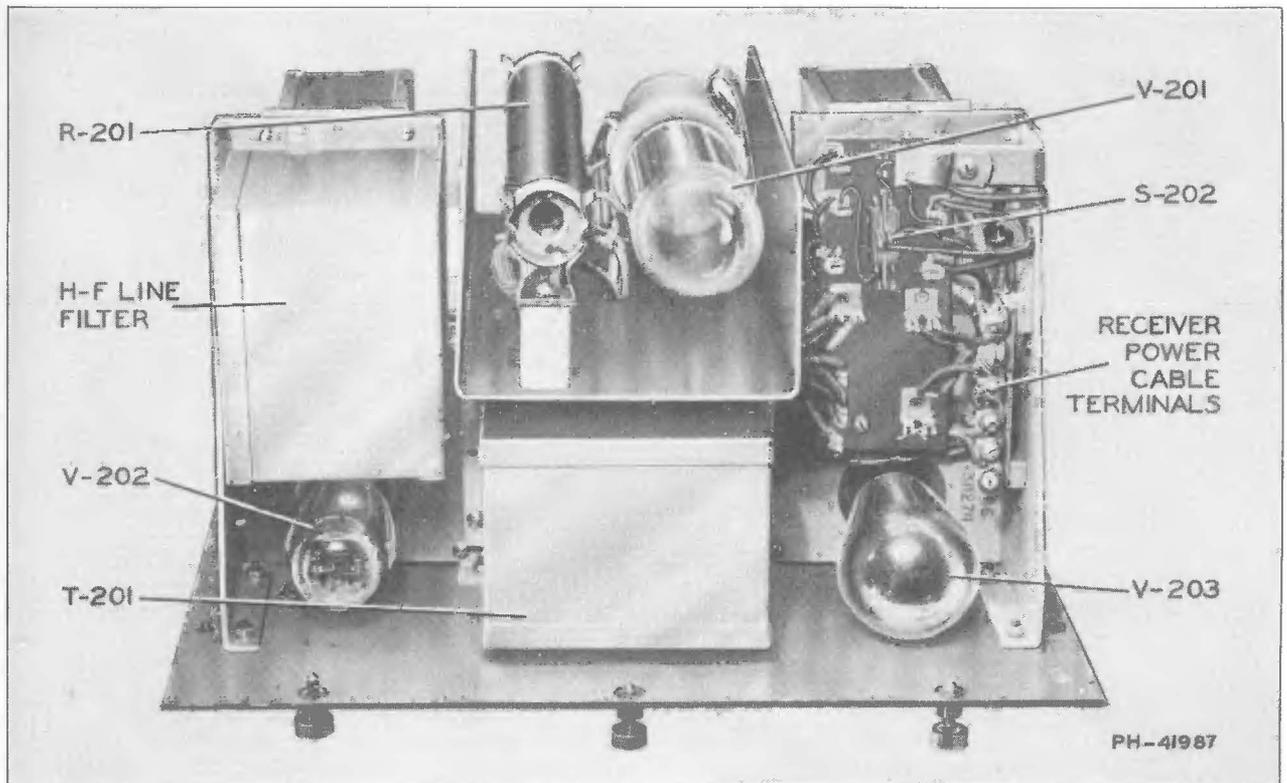

Figure 1—Power Unit CRV-20036A (Top View of Chassis)
6.4-1 The wiring between units is shown in Figure 15. At installation, the supply voltage should be measured or otherwise ascertained and the primary taps of the power transformer (T-201) shifted if necessary to comply with the nominal line rating. These taps are connected at the factory for 115 volts as indicated by the marking "115" adjacent to the terminals to which the red wires from toggle switch S-202 is connected (see Figures 1, 4 and 20). If the supply voltage is nearer 110 or 120 volts than 115 volts, shift these red wires to one of the two other pairs of terminals (marked "110" and "120," respectively) as required. To eliminate as much a-c hum and other electrical interference as possible, the 110-, 115-, or 120-volt, a-c supply should be connected to the power unit by a shielded twisted pair of wires (No. 14 or larger), or run in grounded conduit as far as the bulkhead adjacent to the power unit and terminated in a junction box. In no case should transformers or other a-c equipment be located in close proximity to the receiver.
7.1-1 The tube locations are shown in Figures 1 and 15.
8.3-1 The power unit is designed for mounting underneath a table (see Figure 14). The cabinet may be permanently mounted, the chassis being removable for access to tubes, for servicing, and for cable connections. All components are mounted on the chassis or panel forming a single assembly (see Figures 1, 4, and 7). On top of the chassis from left to right are located the rectifier tube, h-f line filter shield, power transformer, voltage regulator tube, resistor board, and power terminals. The line filter shield at the left rear is removable for access to the line input terminals and fuses. In the center at the rear is located the current-regulator tube. Beneath the chassis from left to right are located the l-f line filter, ripple filter reactors, and ripple filter capacitor pack.
- 9.5-6 In order to make this power unit interchangeable with the one used in the RAL Series equipment, a socket is provided for a Type 38276 current-regulator tube. Since this equipment operates at relatively low frequencies, the additional freedom from effect of line voltage variation obtained from the current-regulator tube is not needed if the line regulation is within ± 10 percent. In the interest of conserving primary supply current, its use with this equipment is not recommended under normal circumstances. A switch, therefore, is provided inside the unit (see Figures 1 and 4) which accomplishes the changes in circuit necessary for operation without this tube. This switch disconnects the current-regulator tube and switches the power transformer primary for operation directly connected to the line filter. (See paragraph 10.2-3.)
- 10.2-3 Current Regulator Switch: This switch is located under a terminal board at the right rear top of the chassis (see Figures 1, 4 and 20) and should be thrown to the "Out" position for this equipment. In this position, the proper primary connections to the transformer are made for operation without current regulation.